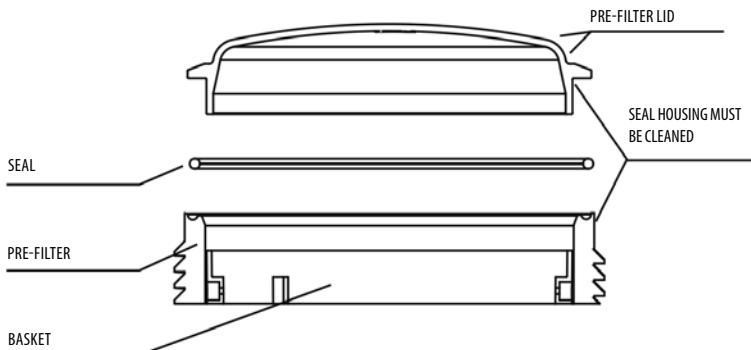

FIGURE 5
- Every time the pre-filter is opened, clean off any dirt on the seal and its housing to ensure the cover is watertight when closed (FIGURE 5).